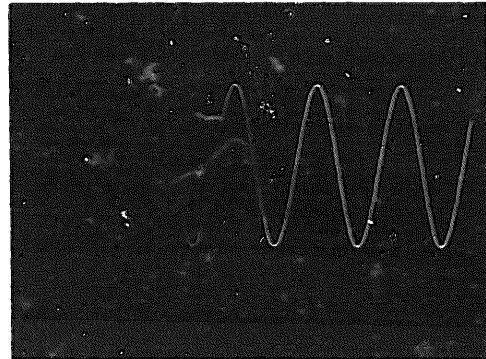

Figure 1-7. Variable persistence with a slow, repetitive sweep
b. For variable persistence operation, use minimum **INTENSITY** and maximum **PERSISTENCE** compatible with the desired display. (See Fig. 1-7.)